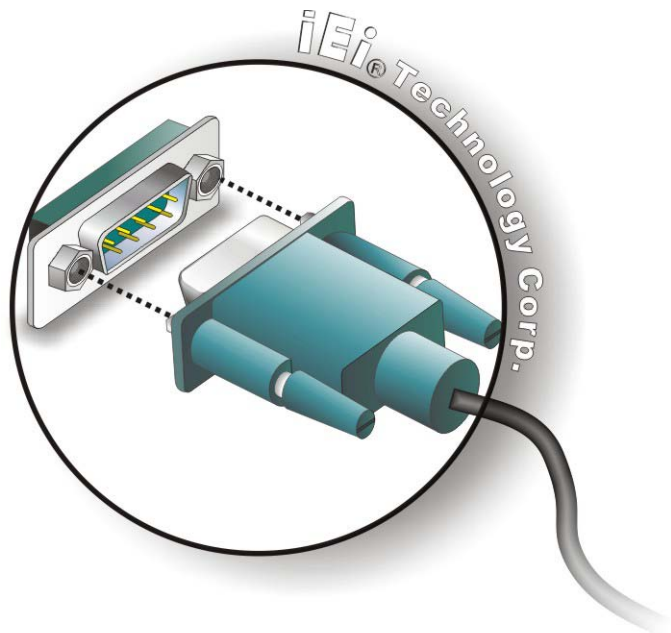

Figure 4-15: Serial Device Connector
Step 2: Insert the serial connector. Insert the DB-9 connector of a serial device into the DB-9 connector on the external peripheral interface. See **Figure 4-15**.